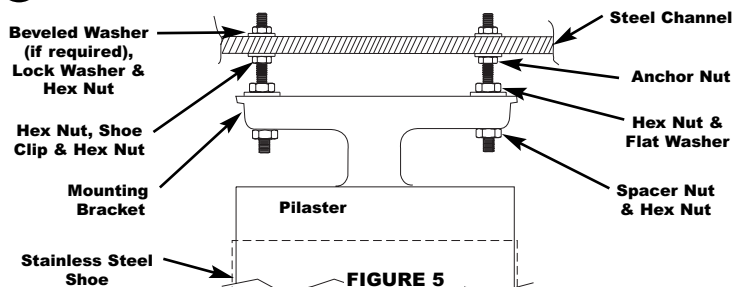

FIGURE 5
- Insert expansion shields or other ceiling fasteners and position 3/8" threaded rods, each secured with a shoe clip and anchor nut at ceiling. See figure 5.
- Level pilasters from one compartment to the next by adjusting support nuts on the threading rods. See figure 5.